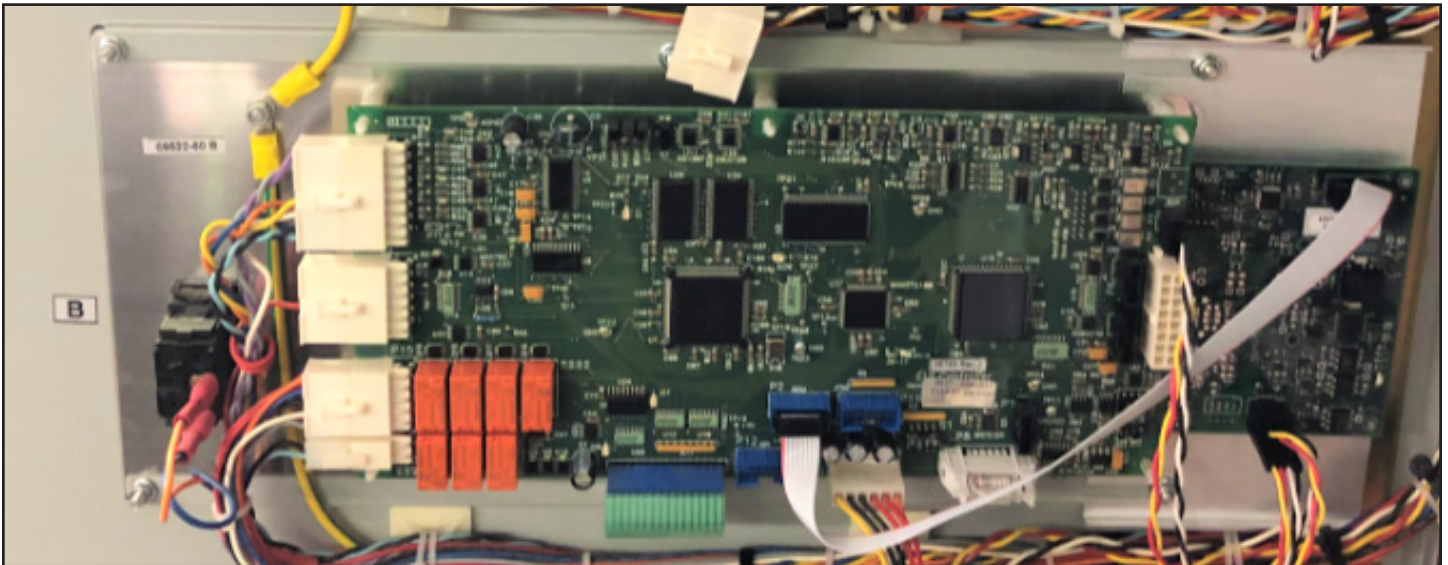

Figure 13 DVS100/DVS150 Channel B Control Board Assembly
12. Loosen the two top- and bottom-right nuts from the DVS100/DVS150 control board assembly (Channel B) (Figure 13).
13. Place the DVS100/DVS150 CAN board assembly on the Channel B of DVS100/DVS150 control board assembly over the loosened nuts and slide the CAN board toward the control board as shown in Figure 13, and tighten the two nuts.